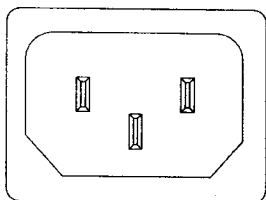
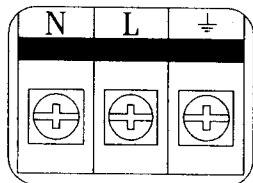

Figure 2-4 AC Connector
Figure 2-5 Screw Terminal
All connections to the Recorder are made to the Rear Terminal Panel (Figure 2-4 or Figure 2-5). Any wiring carrying hazardous voltages must conform to all applicable local and national safety codes. AC Mains connection is via an internationally accepted IEC 320 AC mains socket or screw terminal.
Figure 2-4 shows the IEC 320 AC mains socket on the rear of the Recorder. The center pin is the ground termination. If a mating plug is provided, it will be marked with the Ground, LINE (L) or hot, and NEUTRAL (N) or return. In the United States, an approved cable with integral plug (NEMA 5-15 P) is provided. In some instances, a cable with no plug may be provided. In this instance, the user must connect an approved plug to the cable prior to connecting to the AC source.
Figure 2-5 shows the screw terminal power connections on the rear of the Recorder. The right terminal is ground, the center terminal is LINE (L) or hot and the left terminal is NEUTRAL (N) or return. The wire color codes are as follows: